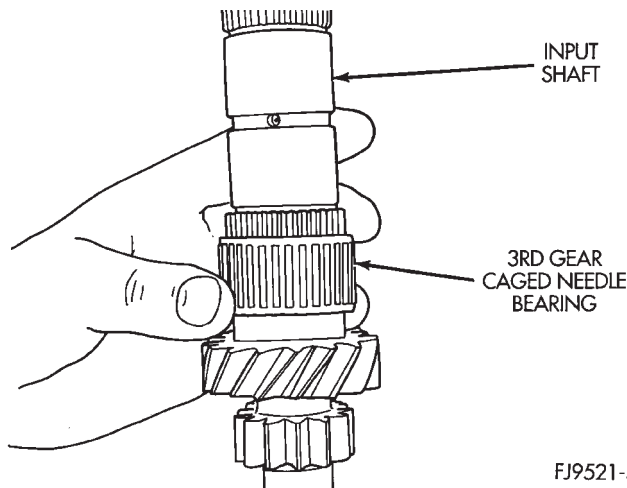

Fig. 98 3rd Gear Caged Needle Bearing
(11) Remove 3rd gear caged needle bearing (Fig. 98). Check the caged needle bearing for a broken retention spring.